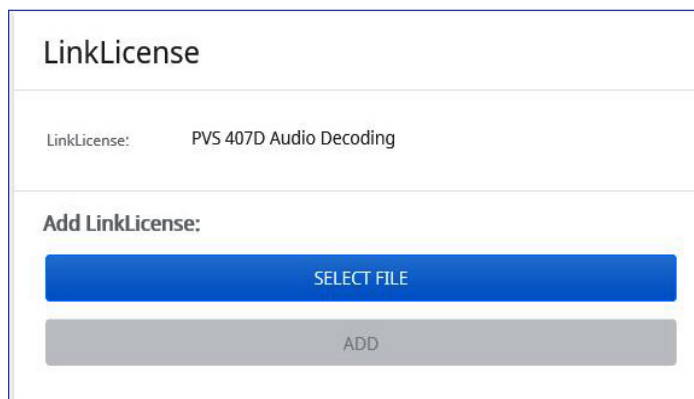

Figure 62. LinkLicense Uploaded
4. Click **ADD**. The LinkLicense is uploaded and automatically installs to the connected PVS 407D. The switcher automatically performs a system reboot when complete to apply the LinkLicense. When the license is properly installed, your LinkLicense panel looks like figure 62 below.